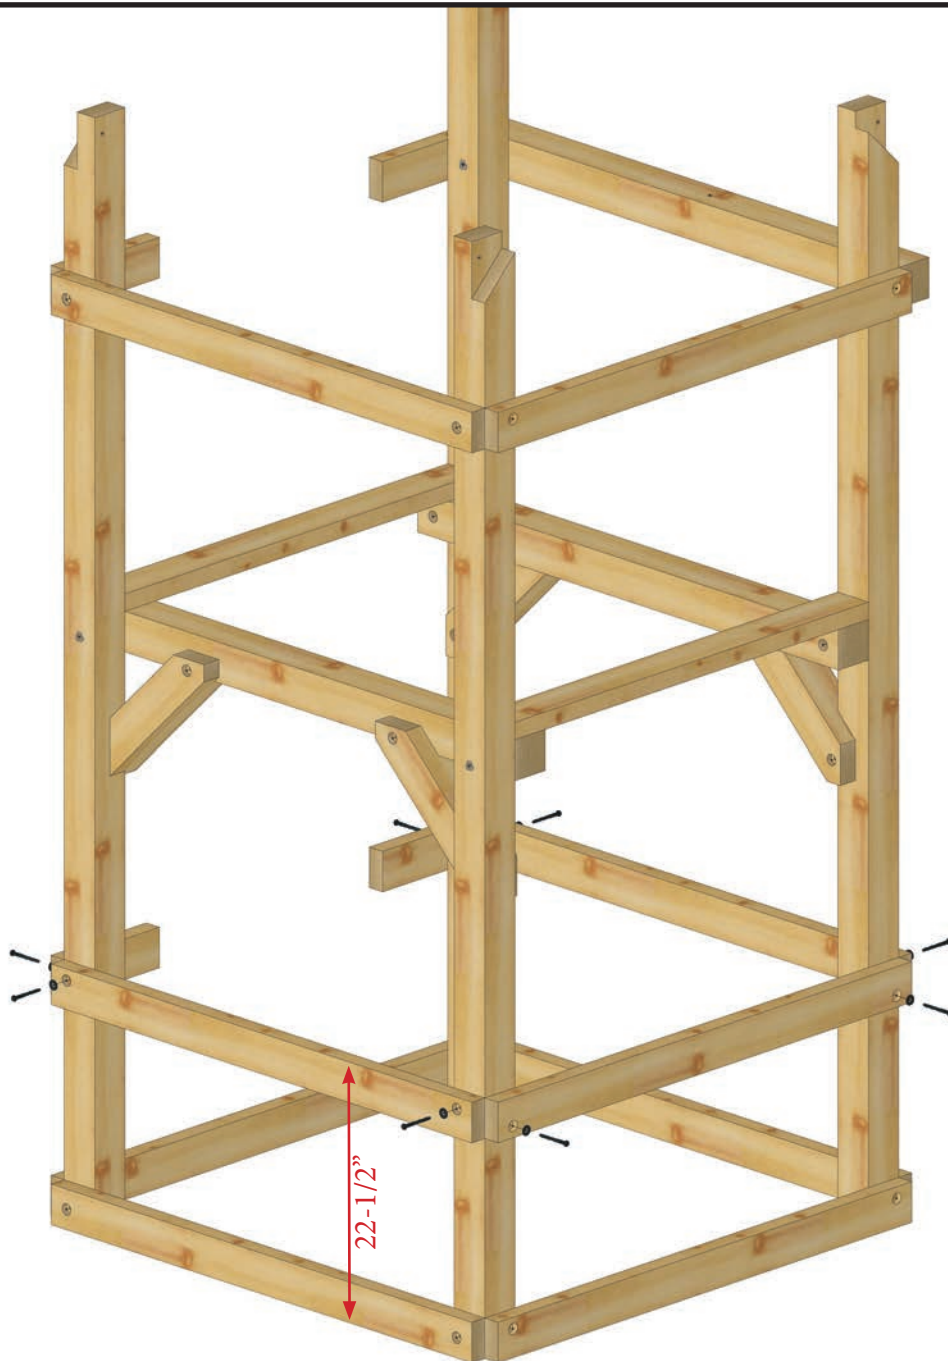

Figure 7.0
7.2 Fasten Top Panel Offset 48" (3) to Corner Post with 5/16 x 3 Lag Bolts with 5/16 washer as shown in Figure 7.0. Be sure to flip the orientation as you go to avoid the lags colliding in each corner post.
7.3 Fasten Top Support 12" to Corner Post with 5/16 x 3 Lag Bolts with 5/16 washer as shown in Figure 7.0.